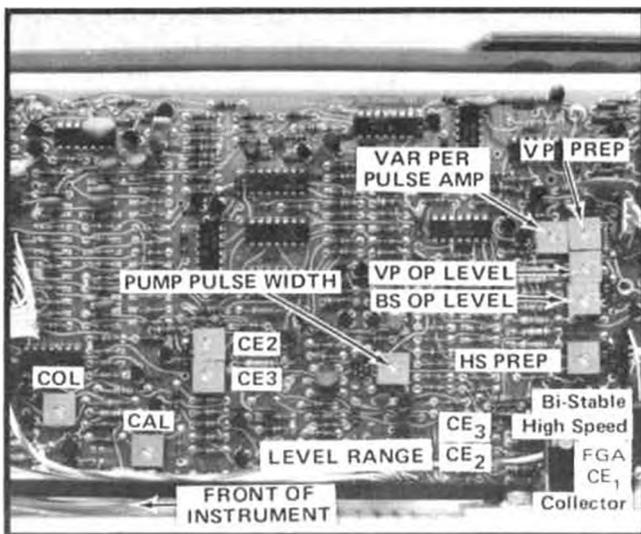

Fig. 2-10. Storage adjustments and storage test points (Cal-Storage board).
### 42. Check—Storage Test points (see Fig. 2-10)
f. CHECK—Storage test points (see Fig. 2-10). Table 2-4 lists the Storage test points and their voltage tolerances in the Bi-Stable mode. Connect the test oscilloscope 10X probe to each storage test point, in turn setting the test oscilloscope vertical deflection to 1.0 V, 2.0 V, and 5.0 V as required.
j. CHECK—Storage test points (see Fig. 2-10). Table 2-5 lists the storage test points and their voltage tolerance. Connect the test oscilloscope 10X probe to each storage test point, in turn, setting the test oscilloscope vertical deflection to 1.0 V, 2.0 V, and 5.0 V as required.
e. Find lower writing threshold; adjust R1325 toward the zero volt level until the storage screen starts to go dark (see Fig. 2-10 for location of adjustments).
i. CHECK—Storage test points (see Fig. 2-10). Table 2-6 lists the storage test points and their voltage tolerances. Connect the test oscilloscope 10X probe to each storage test point, in turn, setting the test oscilloscope vertical deflection factor to 1.0 V, 2.0 V, and 5.0 V as required.
l. CHECK—Storage test points (see Fig. 2-10). Table 2-7 lists the storage test points and their voltage tolerances. Connect the test oscilloscope 10X probe to each storage test point, in turn, setting the test oscilloscope vertical deflection factor to 1.0 V, 2.0 V, and 5.0 V as required.
p. CHECK--Storage test points (see Fig. 2-10). Table 2-8 lists the storage test points and their tolerances. Connect the test oscilloscope 10X probe to each test point, in turn, setting the deflection factor to 1.0 V, 2.0 V, and 5.0 V as required.